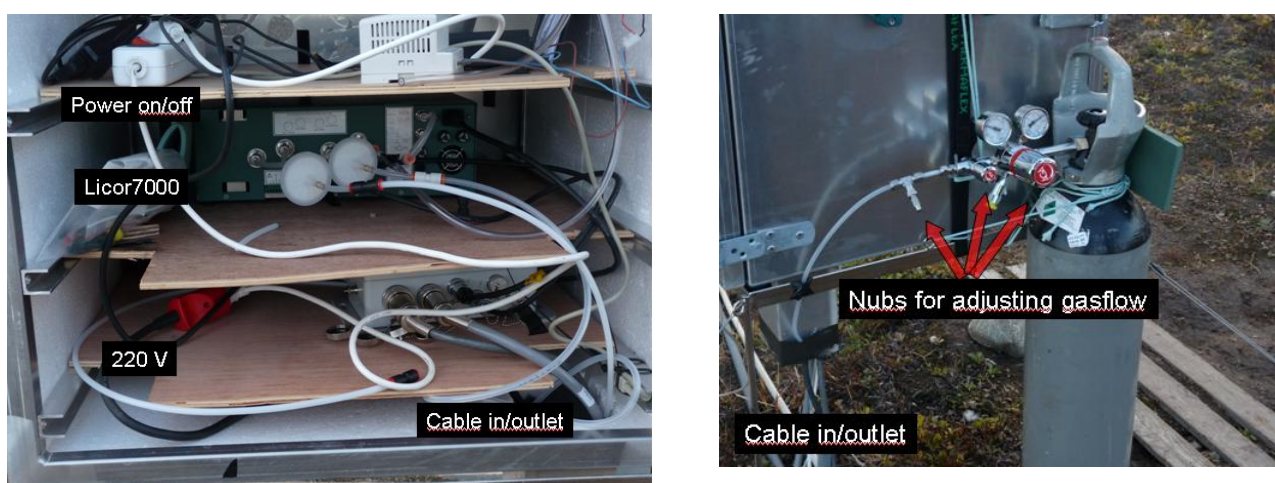

Fig 10.5 A look into the enclosure from the Back (left) Gas supply for the Licor7000 (right).
7. Mount the LiCor-7000 and the computer and all the cables from the anemometer in the enclosure (Follow the separate installation instructions in the black folder and Fig 10.5)
3. Switch on the external pump on the (On/Off) switch (Fig 10.5).
1. Switch off the external pump on the (On/Off) switch (Fig 10.5).
4. Check the flow rate of the incoming nitrogen gas (see figure 10.5). On the backside of the Licor7000 an outlet tube from cell A leads out to the open air. There should always be a continuous flow from the tube of about 1-2 bobbles per second. Bring a small bottle with water (can be left in the enclosure, as long as the air temperature is above freezing) and insert the outlet tube from cell A into the water. Allow bobbles to escape through the water by orientating the outlet horizontally or slightly upwards inside the bottle. Notice the time on your watch, count 20 bobbles and look at your watch again. If 10-20 seconds have passed the air flow is fine, if not adjust the nubs on the nitrogen gas bottle just next to the enclosure. Allow the flow to stabilize for a couple of seconds, before performing the bobble test again. Repeat this exercise until the gas flow is correct. During the main field season this should be done every third day or whenever great changes in temperature occurs. In the outer seasons it might be necessary to do it every day, because the gas flow is very sensitive to great changes in below 0 degrees Celsius temperatures. Also note the amount of gas content in the gas bottle. If the gas flow is optimal, the consumption of gas should be around 20 bar/month.
3. Connect a new filter to the tubes. Make sure the tube covers the filter branch completely and that the filter is installed so inlet/outlet is in the right direction according to the direction of the air flow (Fig 10.5).